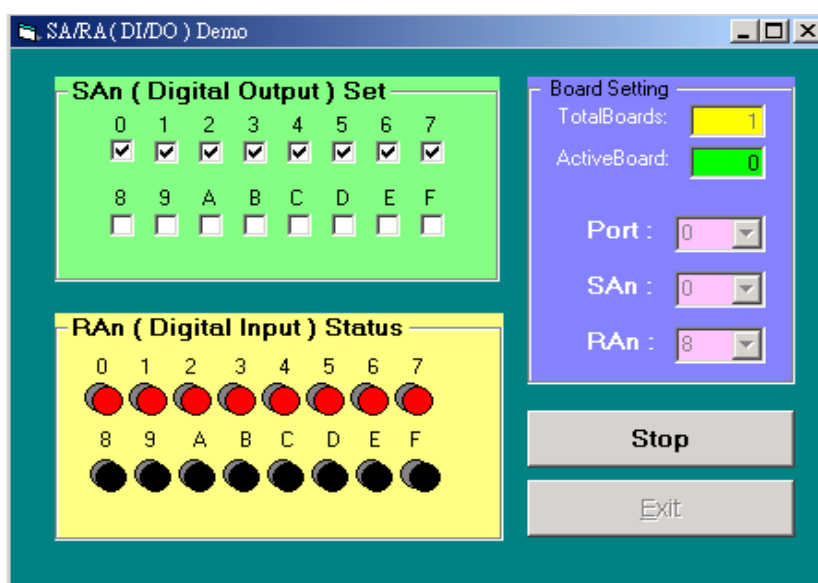

Figure 7.2
Step 4 : On the screen of Fig7.2, the RAn ( Digital Input ) status will display the 16-bit data sent from the remote SA8 (FR-2053) to the host RA8 (FRB-100/200).